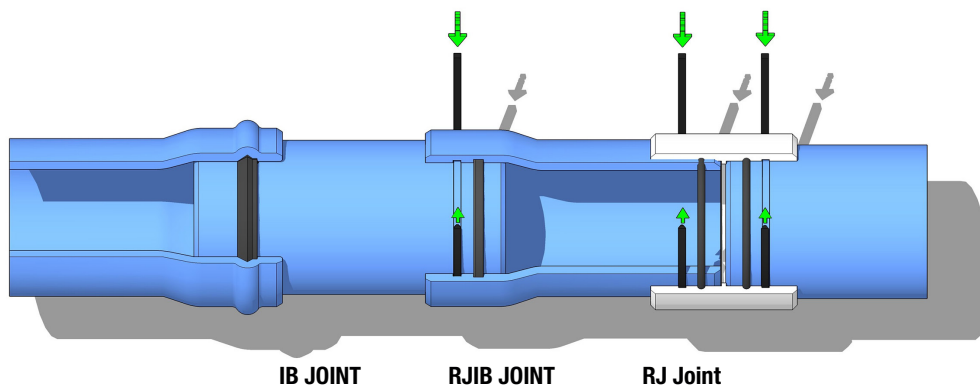

Figure 1 – NAPCO's Gasketed Joint Configurations
Gasketed joints used in segmented PVC pipe are typically available in a bell-and-spigot Integral Bell (IB), restrained joint integral bell (RJIB), and restrained joint (RJ) coupled configurations. These different joint types are illustrated in Figure 1 below. The benefits of using segmented PVC pipe include a smaller work site staging area, quick and efficient joint assembly, allowance of minor directional change at each joint, localized stress to terminate at each joint, and allows axial movement in the joint when subjected to external soil loads or thermal expansion and contraction.